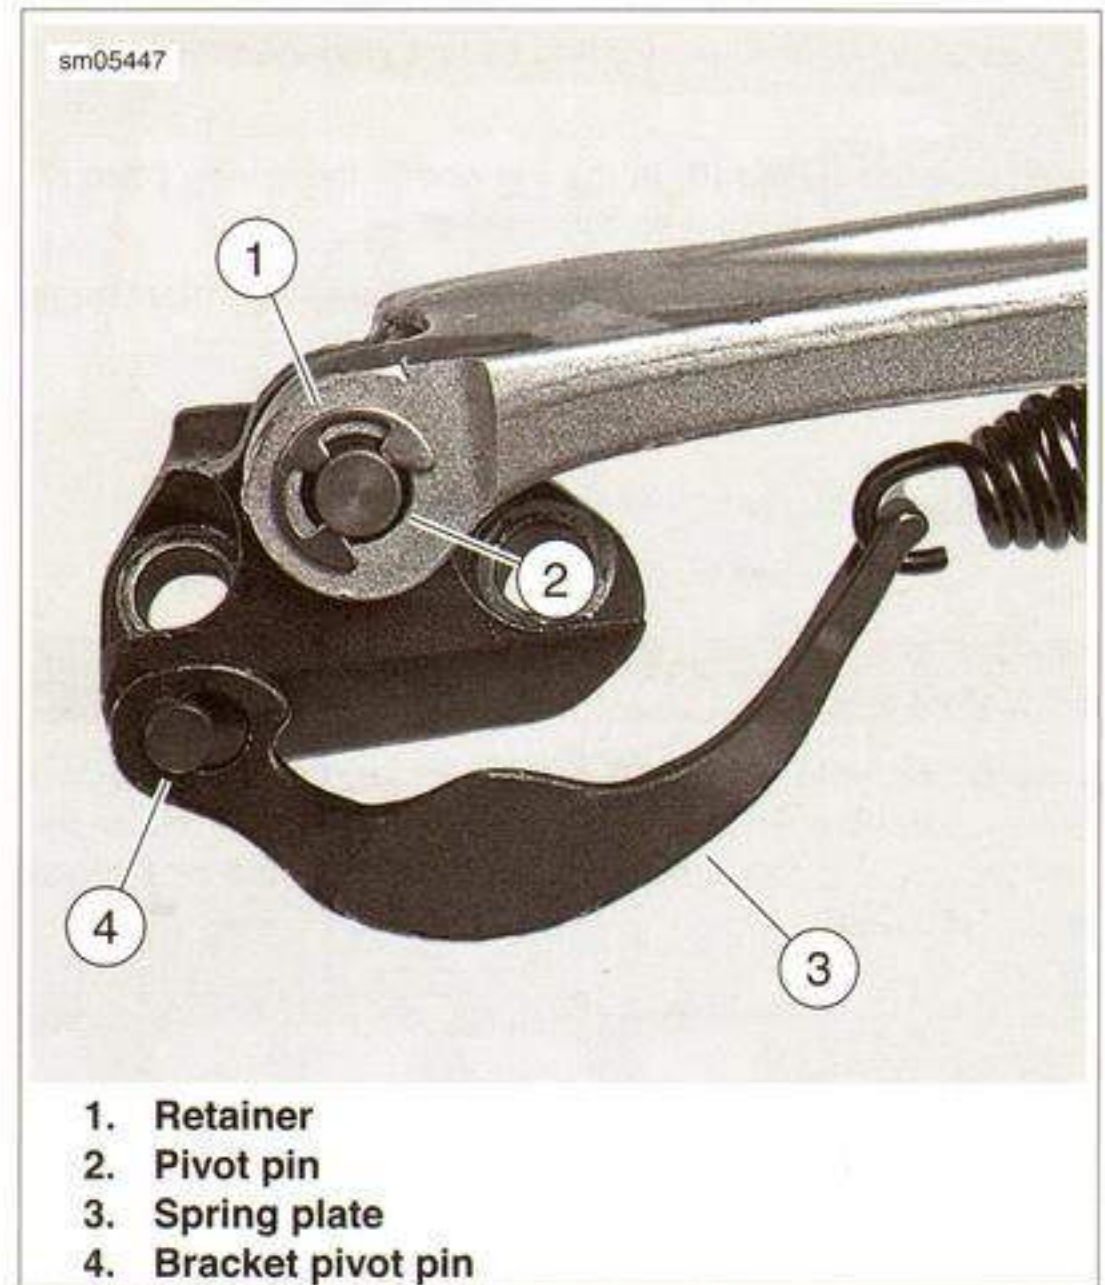

Figure 2-169. Pivot Pin and Retainer
2. See Figure 2-169. Remove the retaining clip (1) from the sidestand pivot pin (2) and remove the pivot pin.